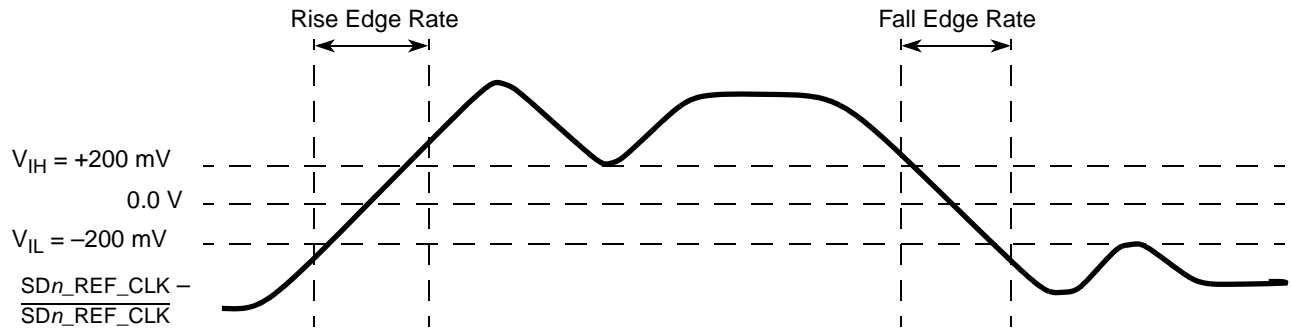

Figure 48. Differential measurement points for rise and fall time
- Measured from -200 mV to +200 mV on the differential waveform (derived from $\text{SD}_n\text{_REF_CLK}$ minus $\overline{\text{SD}_n\text{_REF_CLK}}$). The signal must be monotonic through the measurement region for rise and fall time. The 400 mV measurement window is centered on the differential zero crossing. See Figure 48.